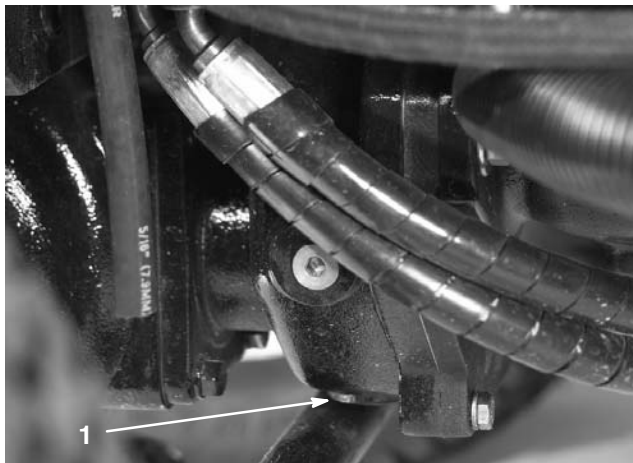

Figure 70
5. Clean the area around the drain plug on the bottom of the gear box (Fig. 70).